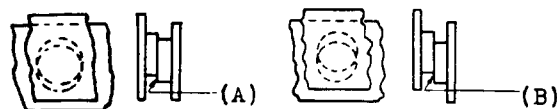

Fig. 2 - Contact Alignment
*(b) Fig. 2(B) and 3(A) - The motor stop contacts shall line up so that their centers are not out of alignment more than 1/4 of the contact diameter. Gauge by eye.